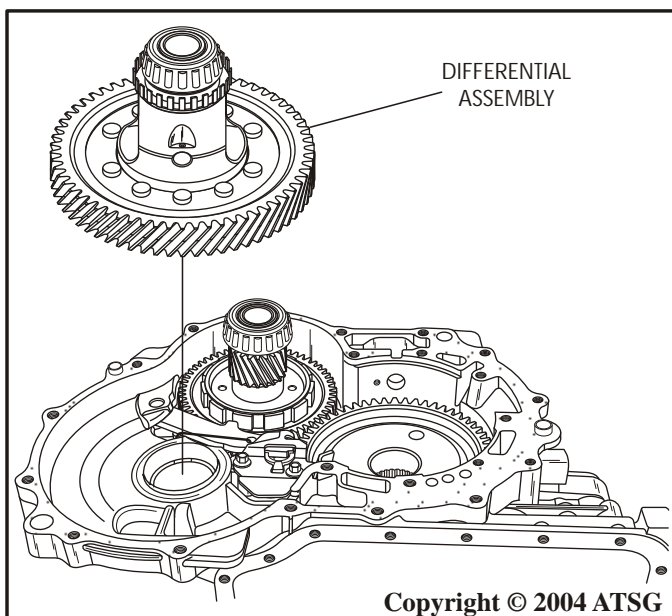

Figure 135
50. Install the completed differential assembly into the transaxle case, as shown in Figure 135.